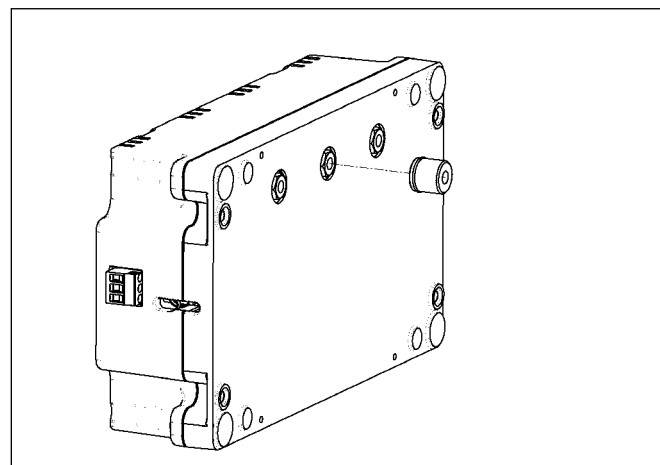

Figure 2. Bus bar extension bushing
- Before mounting the SPD, first determine the bus bar configuration. If the panelboard uses an offset B-Phase bus bar configuration, no action is required. If the panelboard uses a coplanar bus bar configuration, remove the bus bar extension bushing from the back of the SPD and discard. See Figure 2.